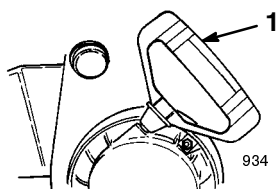

Figure 17
- **Recoil Starter** (Fig. 17)—Pull the recoil starter to start the engine.
- A. Grasp the recoil starter handle (Fig. 17) and pull it out slowly until positive engagement results; then pull the handle vigorously to start the engine.